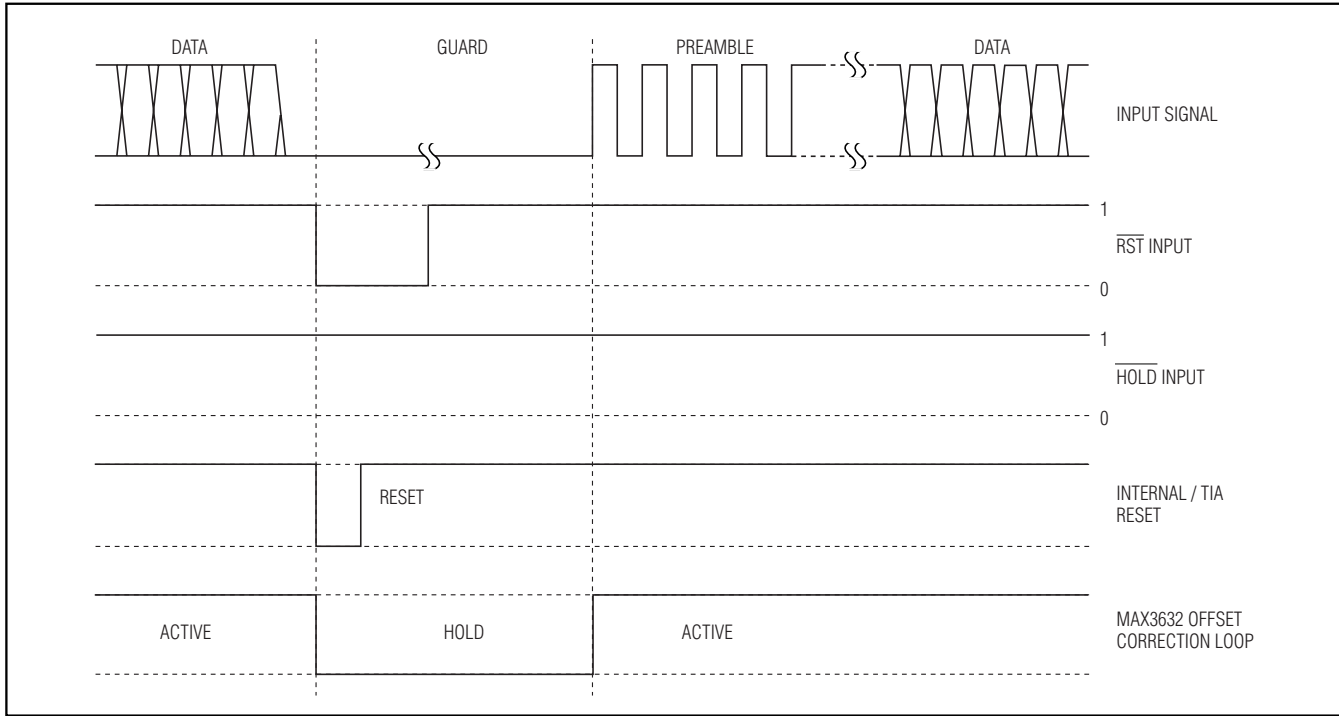

Figure 7. \overline{RST} Timing Method 1
The LVPECL-compatible reset input ($\overline{\text{RST}}$) is used to transmit a reset signal to the MAX3630/MAX3631 TIAs. When the $\overline{\text{RST}}$ input transitions low, a reset signal is generated by the internal logic and transmitted to the MAX3630/MAX3631 TIAs as described above in the *Input Stage* section. The data input (IN) must be a logic zero when $\overline{\text{RST}}$ is asserted during the guard time (Figure 7). The $\overline{\text{RST}}$ signal is also used to disable (hold) the offset correction loop until the first transition is detected by the reset and hold logic, thus indicating the beginning of the next burst signal. The hold input (HOLD) may be used to provide alternative offset cancellation control modes. Timing and operation of the $\overline{\text{RST}}$ and HOLD inputs are described in more detail in the *Applications Information* section.
The $\overline{\text{RST}}$ and $\overline{\text{HOLD}}$ LVPECL-compatible inputs of the MAX3632 provide three different modes for disabling (holding) the offset correction loop during routine operations. The first mode of operation requires the single reset input, $\overline{\text{RST}}$, which is the same signal used to create the reset signal for the MAX3630/MAX3631 TIAs to arm its threshold setting circuitry. Refer to the MAX3630/MAX3631 data sheet and the *Input Stage* section for additional information. For this method, illustrated in Figure 7, the $\overline{\text{RST}}$ signal disables (holds) the offset correction loop until the transition detector in the MAX3632 identifies the beginning of the next burst. The burst-mode reset signal, $\overline{\text{RST}}$, must occur entirely within the guard time interval to prevent corrupted data. The data input (IN) must be a logic zero when $\overline{\text{RST}}$ is asserted (Figure 7). When operating in this mode, the $\overline{\text{HOLD}}$ input should be set to a valid LVPECL high ($1600\text{mV} \geq \overline{\text{VHOLD}}_+ - \overline{\text{VHOLD}}_- \geq 200\text{mV}$). If the functionality of the $\overline{\text{HOLD}}$ input is not used in the application, it can be con-